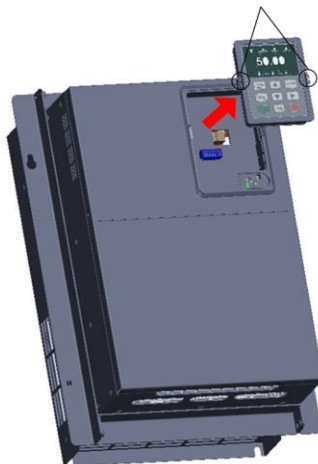

Figure 3-20 Operation panel uninstallation diagram
- a. Remove the operation panel from the frequency converter body, as per the figure 3-20.